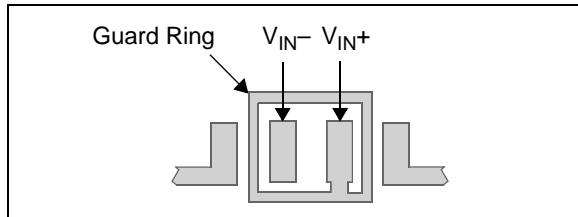

FIGURE 4-11: Example Guard Ring Layout.
The easiest way to reduce surface leakage is to use a guard ring around sensitive pins (or traces). The guard ring is biased at the same voltage as the sensitive pin. Figure 4-11 shows an example of this type of layout.
2. Inverting (Figure 4-11) and Transimpedance Gain Amplifiers (convert current to voltage, such as photo detectors).